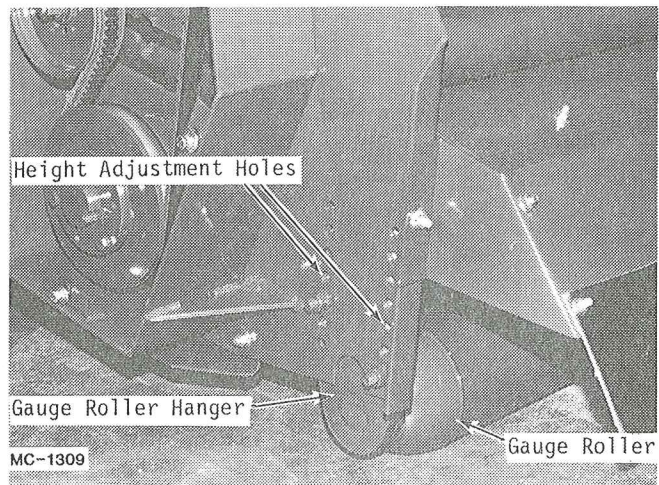

Figure 7 - Gauge Roller
1. The cutting height can be adjusted by moving the gauge roller bearing brackets up or down in the adjustment holes in the Mower side plates. (See Figure 7.)